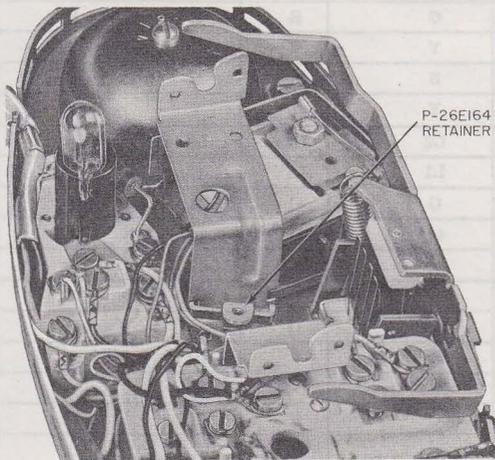
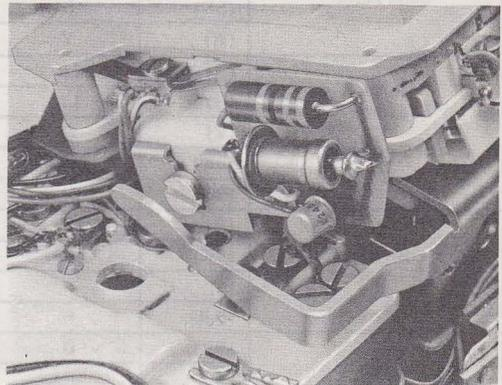

Fig. 4—Installing Terminal Board Retainer in PRINCESS Telephone Set
Fig. 5—Polarity Guard Mounted in PRINCESS Telephone Set
- (1) Remove housing, loosen dial mounting screws, and move the dial to one side without disconnecting the dial leads.
- (2) Insert the P-26E164 retainer in left-hand dial mounting bracket (Fig. 4).
- (3) Insert tabs of P-21F675 terminal board into notches in right-hand dial mounting bracket and secure to retainer using P-43A392 screw.
- (4) Connect polarity guard per Table C.
(5) Reinstall dial mounting bracket, securing the P-90D054 guard assembly mounting bracket under the right-hand dial mounting screw (Fig. 5).